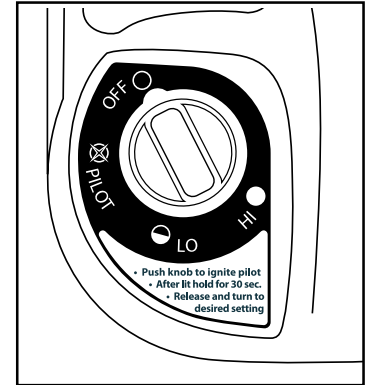

Figure 1: "Off" position.
- Make sure four-position Control Knob is in "OFF" position; see Figure 1.
- Make sure four-position Control Knob is in “OFF” position; see Figure 1.